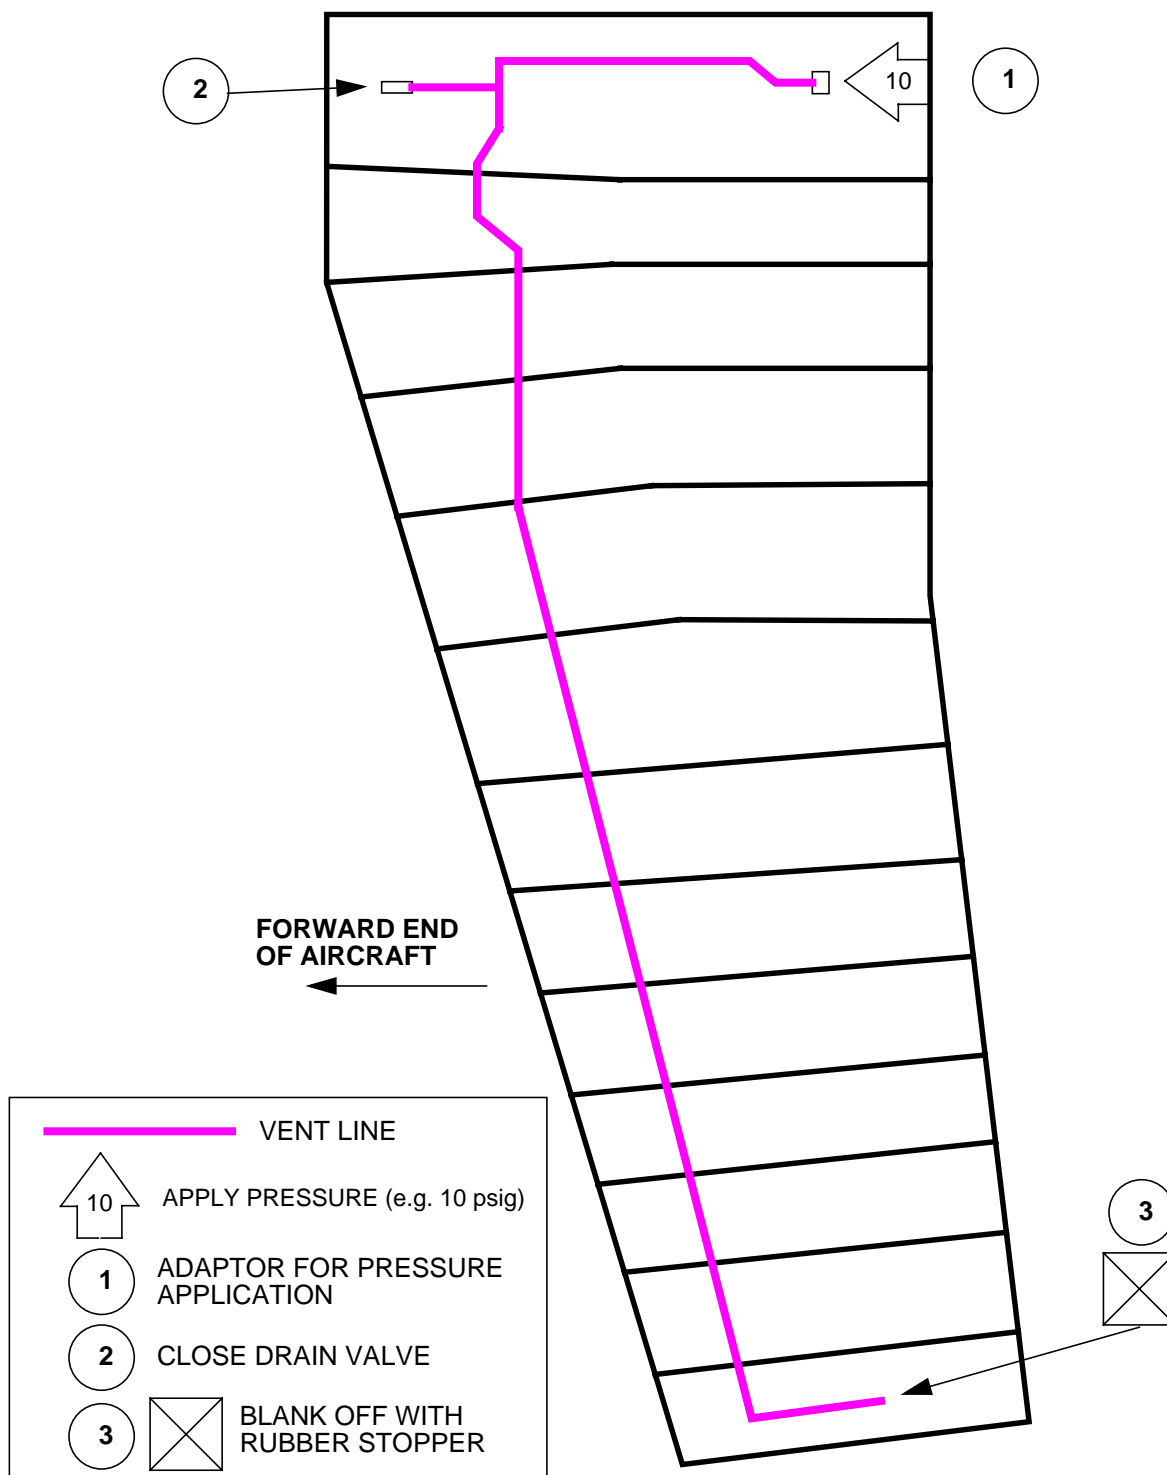

Figure 3 - Vent Line Pressure Test
5.3.2.2 Isolate the **vent line** as follows (see Figure 3):